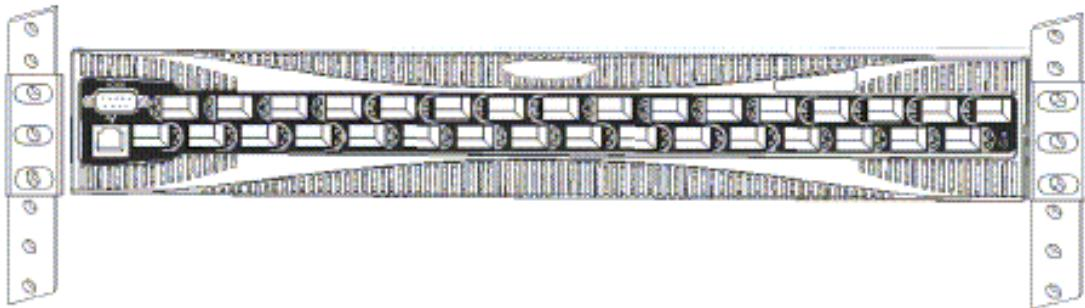

FIGURE 3-1 SilkWorm 3900 Switch Installed With Additional 0.5 RU Above L-Brackets
2. For the SilkWorm 3900 switch, determine the vertical positioning of the switch in the cabinet before installing the inner slide rails on the switch chassis (FIGURE 3-1).